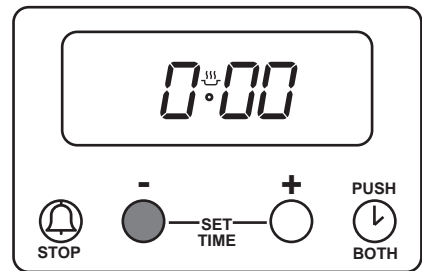

Fig. 10
Press and release button (1). Then press and hold button (1) and the display will count down in one minute intervals to 0^h:00. See Fig. 10. Release button (1).